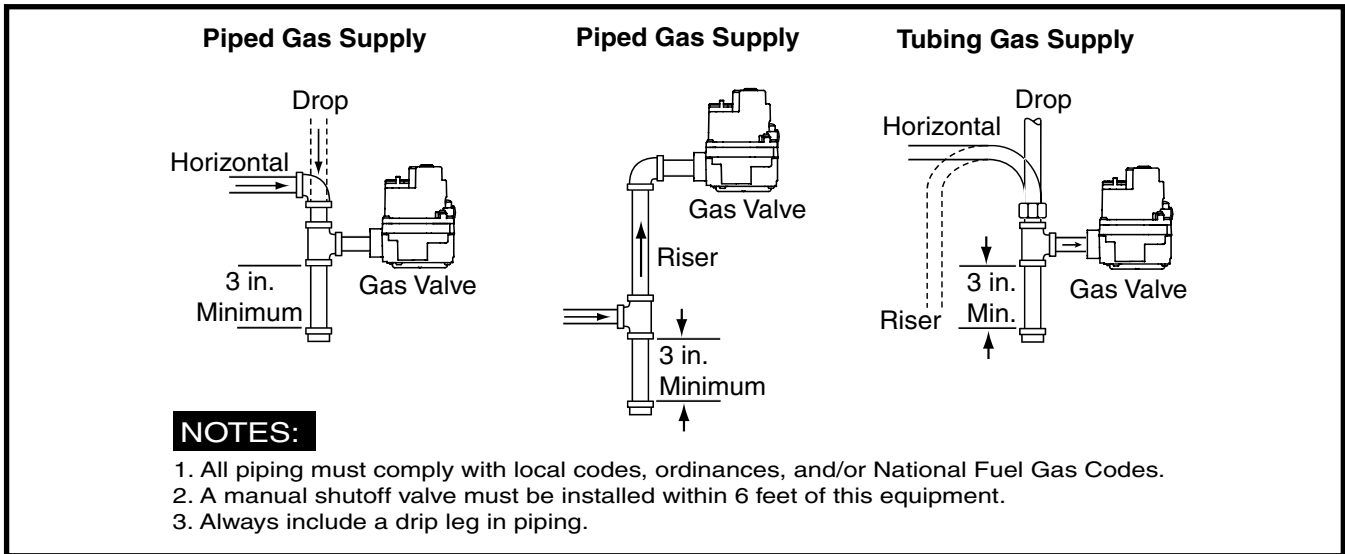

Figure 9. Typical Gas Service Connection
- Some local codes require the installation of a manual main shut-off valve and ground joint union external to the furnace (Figure 9, page 13). The shut-off valve should be readily accessible for service and/or emergency use. Consult the local utility or gas supplier for additional requirements regarding placement of the manual main gas shut-off.
- A drip leg should be installed in the vertical pipe run to the unit (Figure 9).
This unit only has right side gas entry. When connecting the gas, provide clearance between the gas supply line and the entry hole in the unit's casing to avoid unwanted noise and/or damage to the unit. A typical gas service hookup is shown in Figure 9.